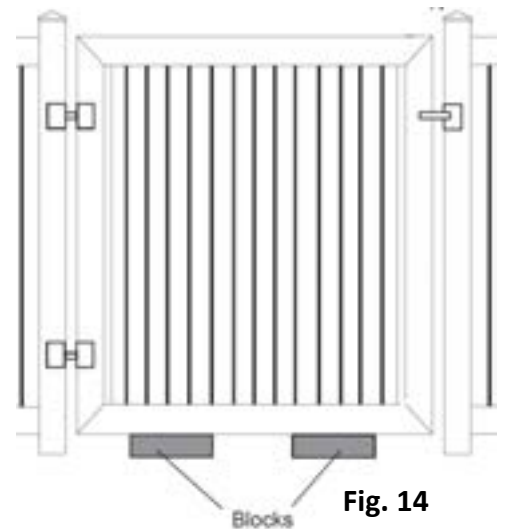

Fig. 14
Step 1. To ensure your gate is square and supported during the installation process, position your gate within the gate opening and place two 2" block supports (or similar support to line up gate horizontally) under the gate to hold it at the proper height, and level to line up with the rails of the fence (Fig. 14).